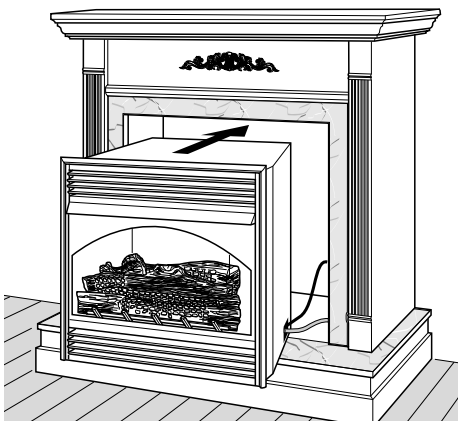

Figure 24 - Inserting Fireplace Into Cabinet Mantel
11. Carefully insert fireplace into cabinet mantel (Figure 24, page 13). Be careful not to scratch or damage hearth base, cabinet mantel, or any laminate trim on hearth base. Remove protective material from top of hearth base and from front of fireplace (if any). *Note:* You can secure fireplace to hearth or floor. Open lower louver. Locate screw holes in bottom of base. Tighten wood screws through these holes and into hearth or floor.